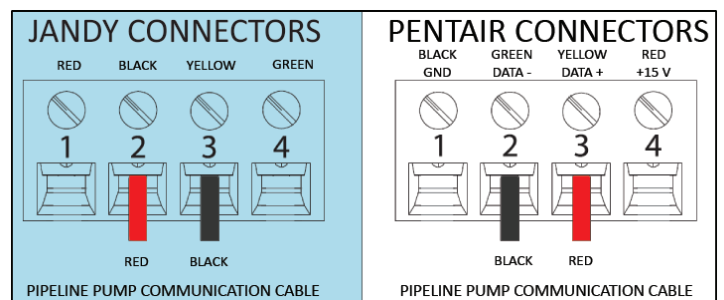

FIGURE 6
- Connect the Black (Data -) and Red (Data +) wires from this cable to an unoccupied Communication port in the load center per the wiring diagram shown in Figure 6.
For connecting to a Hayward® Omni Automation Controller, you will need to use the OmniHub® Converter Board. Follow the Hayward instructions for connecting to a Pentair® Intelliflo® VS pump. Attach your pump communication cable to the OmniHub® Converter Board and wire communication port per the Jandy® diagram in Figure 6.